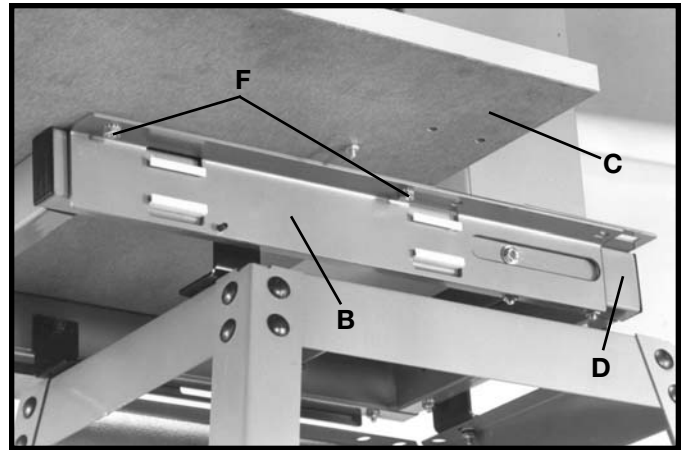
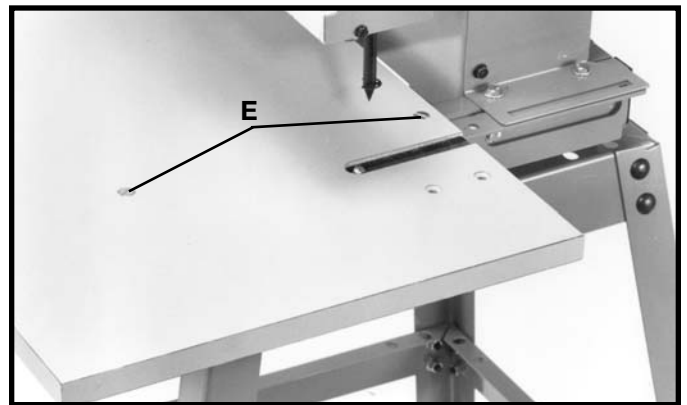

Fig. 10
Fig. 11
4. Position table bracket (B) Fig. 10, against machine frame (D) and underneath table (C) as shown, lining up the two holes (E) Fig. 11, in the table with the two holes (F) Fig. 10, on top of table bracket (B) Fig. 10.
5. Fasten the table to the table bracket using the two 1/4-20x1-1/4" flat head screws (E) Fig. 11, and two 1/4-20 lock nuts (F) Fig. 10. **NOTE: DO NOT TIGHTEN HARDWARE AT THIS TIME.**